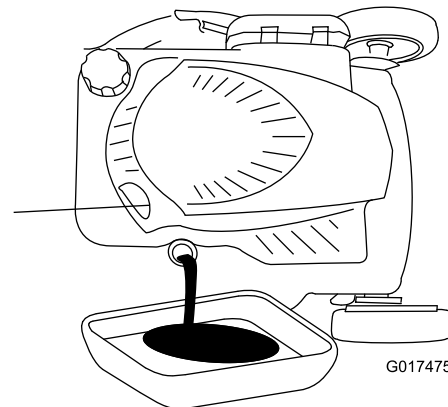

Figure 40
4. Tip the machine onto its side (so that the air filter is up) to drain the used oil from the oil-fill tube (Figure 40).
10. Read the oil level on the dipstick (Figure 40).